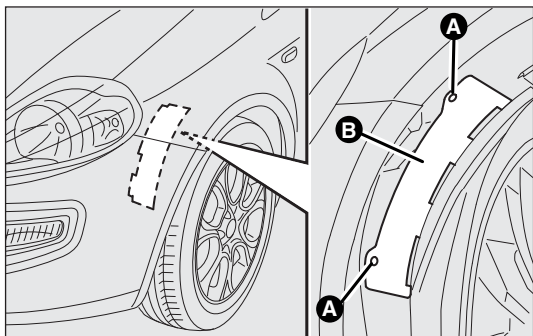

fig. 169
### Front fig. 169
- turn the catch A-fig. 169, then lift off the access lid B;
- close the lid B-fig.169 then tighten the catch A.